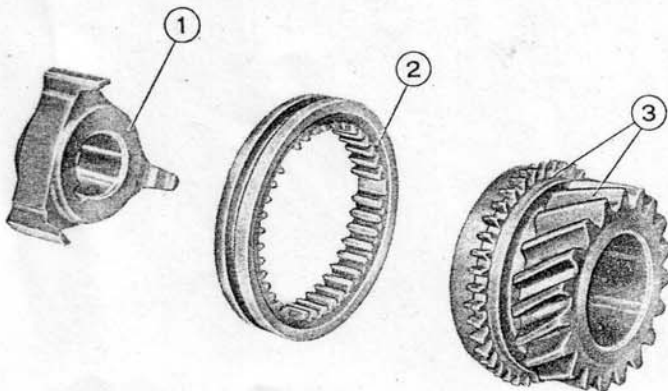

Fig. 52. - Transmission synchronmesh gears.
The slip sleeve (2, fig. 52) is serrated internally for proper mesh with the toothed crown of the gear (3), turning idle on the mainshaft. In this way the gear will be rigidly locked with the driving hub.